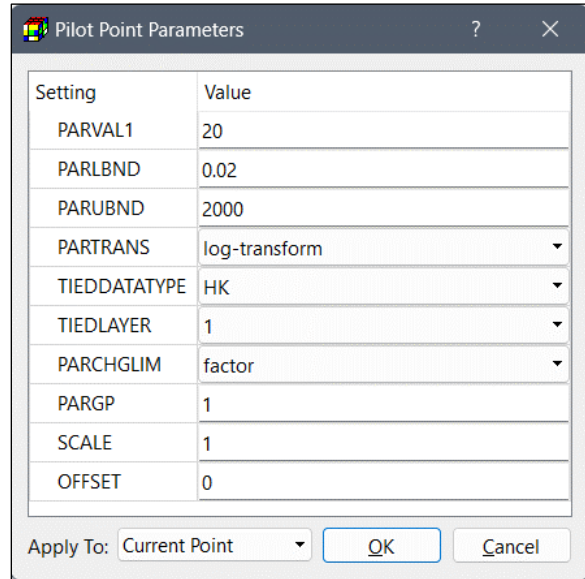

Figure 29. The Pilot Point Parameters dialog box
Pilot point data can be edited individually or collectively using the Pilot Point Parameters dialog box (Figure 29). Follow the instructions below for different editing scenarios:
- Select Edit Pilot Point Data to open the Pilot Point Parameters dialog box (Figure 29).